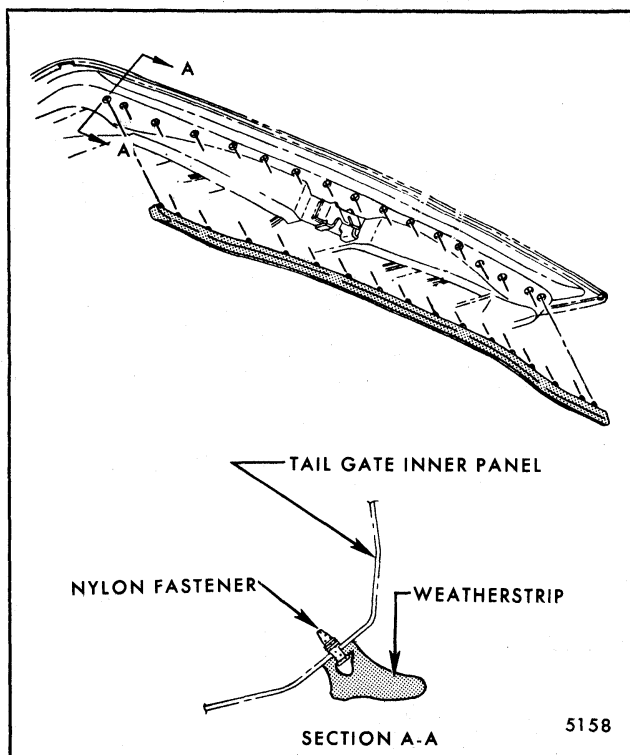

Fig. 7-84-Tailgate Lower Weatherstrip Installation
opening weatherstrip end details by the closing action of the tailgate. Serrated nylon fasteners are a component part of the weatherstrip and are used to secure it to the lower section of the tailgate (Fig. 7-84).
2. To install, align weatherstrip (sealing lip rearward - Section A-A, Fig. 7-84) fasteners to piercings in tailgate panel and press into position.